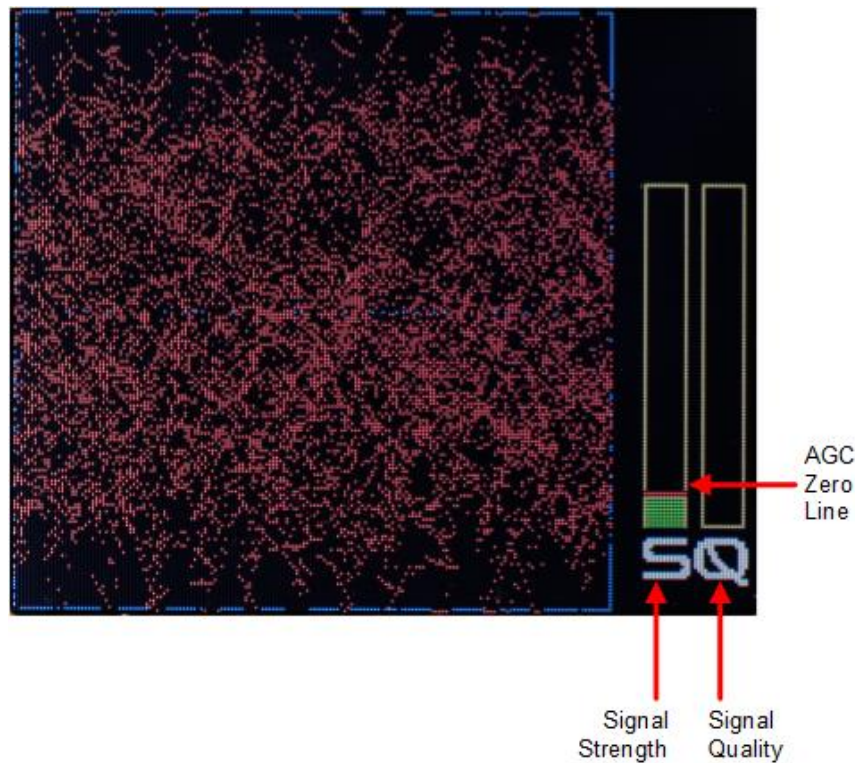

Figure 54: Waveform Graphics After AGC Zero Set
5. After the AGC Zero is set, the signal strength bar changes from yellow to green, and a red line indicates the zero value set, as shown in Figure 54.